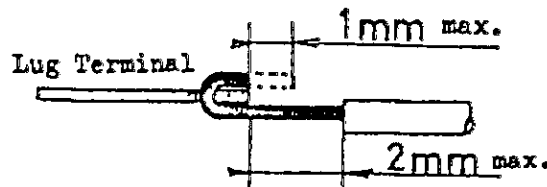

Fig. 4
- (b) Termination of the wire should be hooked as in Fig. 4.